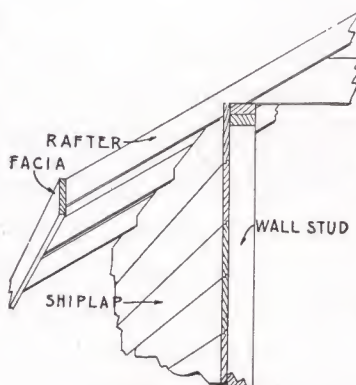
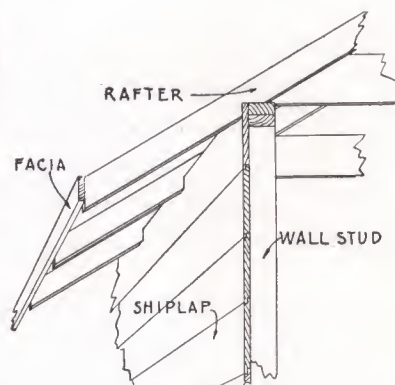

FIGURE 55
FIGURE 56
the ceiling is placed on the "rake" or slant of the under side of the rafter (see Figure 55). If the house has an "open cornice"—that is, when the rafters are exposed to view—put on fascia as shown in Figure 56.
- (a) On all roofs (except the open cornice type, see Figure 56 and Paragraph 47) start the roof sheathing at the lower end of the rafter and lay up the roof. At the top of the WALL SECTION is a note giving the spacing of the roof sheathing, for 4-inch sheathing for wooden shingles, 6-inch sheathing is furnished and is to be laid tight for asphalt shingles or roofing.
- (a) On the open cornice type of roof (see Figure 56) the roof sheathing over the cornice is $3\frac{1}{4}$ inches wide, dressed, matched and beaded. It must be laid tight together. The bead, if it is only on one side, is to be laid down with the rougher side of the board on top. Lay the beaded roof sheathing over the open cornice as far up the roof and as far back in the gable ends as is shown by the measurements on the WALL SECTIONS. After laying all of the tight roof sheathing, start laying the spaced roof sheathing as described in Paragraph 46.